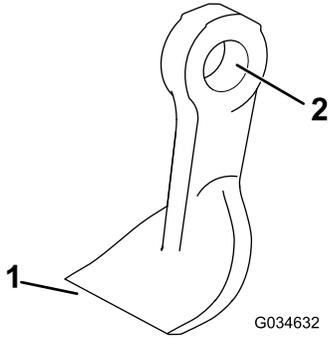

Figure 80
3. Inspect each blade for damage paying particular attention to the fasteners, cutting edge, and installation hole (Figure 80). Replace all damaged blades and fasteners.